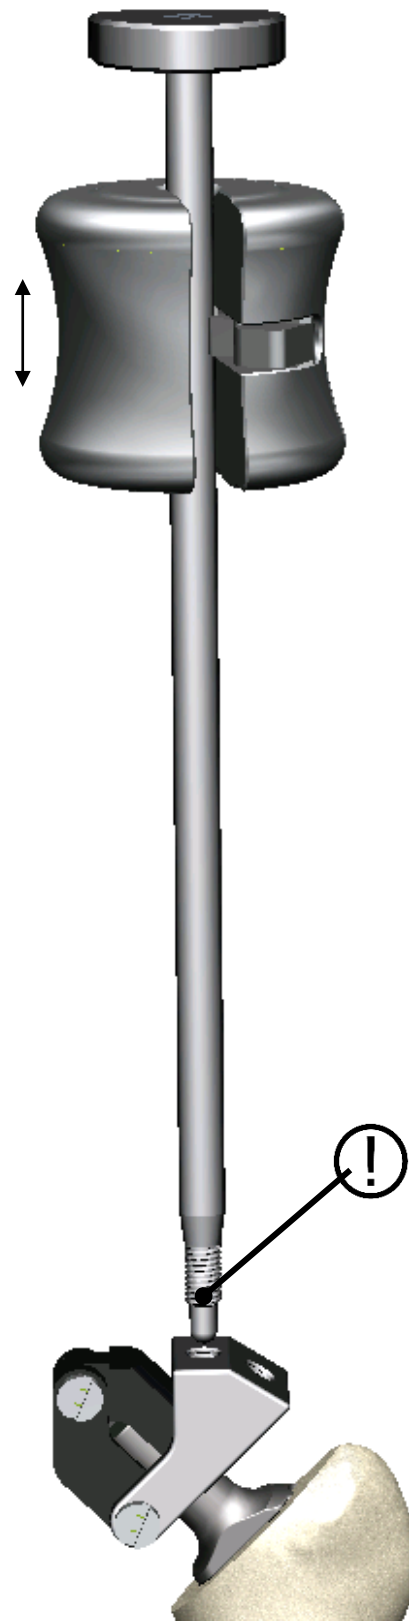

Figure 4: Stem-repositioner with Extractor Bar M8 and Modular Weight in necessary alignment to the implant
- Connect the *Modular Weight* to the *Extractor Bar M8* (Figure 4).